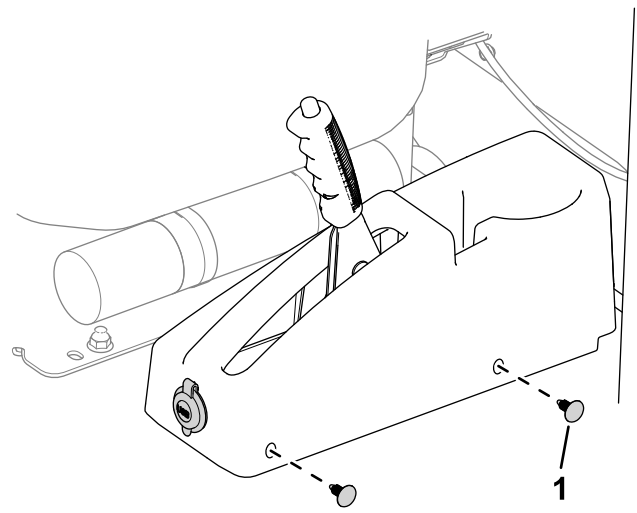

Figure 4
1. Plug (4)
7. Use 4 plugs to secure the parking-brake cover to the machine (Figure 4).